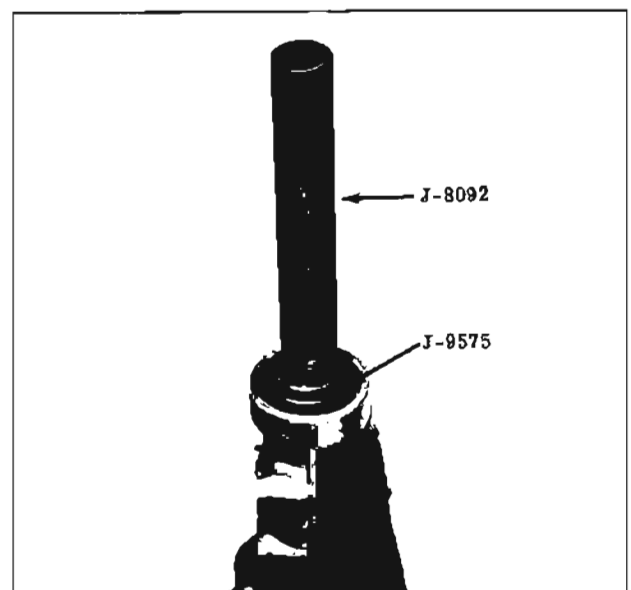

Fig. 11-250 Removing Extension Housing Bushing
2. Drive the bushing into the extension housing with Bushing Installer and Remover Tool J-9575 and handle J-8092. (Fig. 11-250)